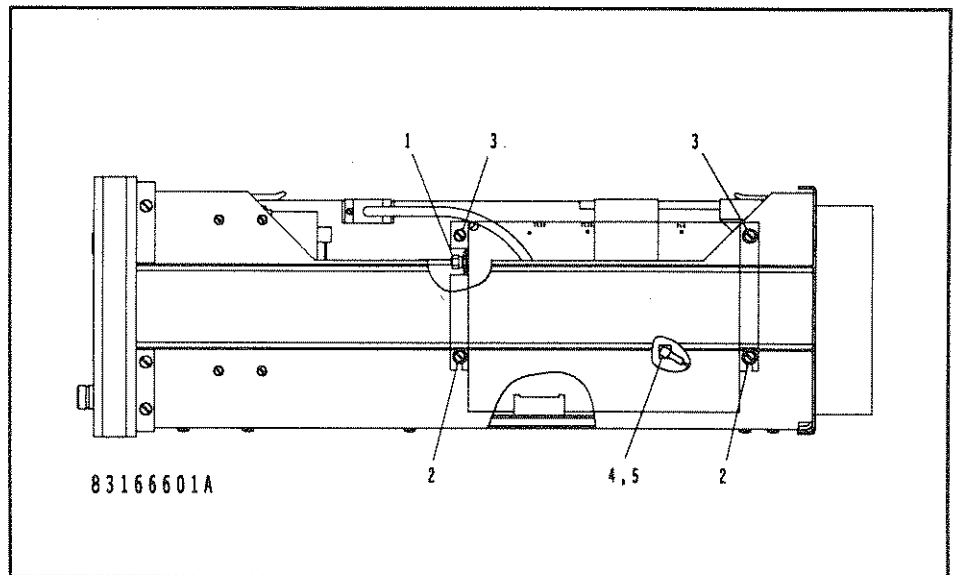

Figure 7-1
1. (Refer to Figure 7-1.) Using a $\frac{5}{16}$ " open-end wrench, disconnect the RF connector located toward the front of the calibrator.